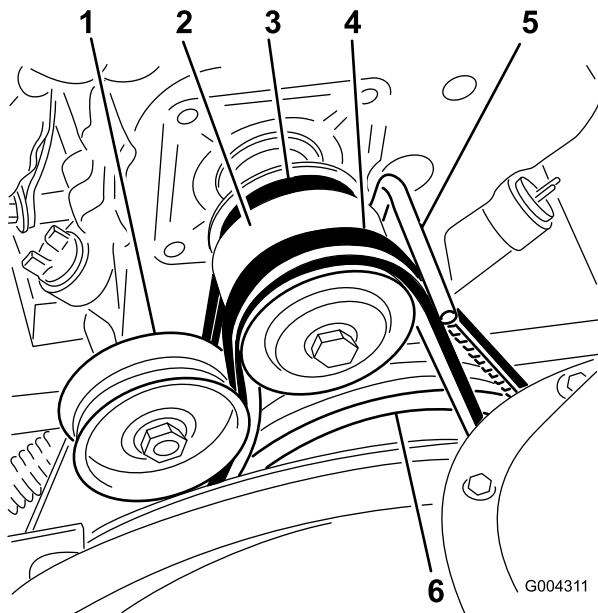

Figure 38
1. Flange-head bolt (2)
3. Loosen the belt guide (Figure 38).
4. Remove the auger/impeller drive belt from the engine pulley and the large auger/impeller pulley (Figure 38).
9. Remove the traction drive belt from the engine pulley and the large traction pulley (Figure 38).
11. Loop the belt over the engine pulley, ensuring that the belt is on the inside of the belt guide (Figure 38).
16. Install the auger/impeller drive belt around the large auger/impeller pulley and engine pulley, ensuring that the belt is on the inside of the idler pulley and the belt guide (Figure 38).
2. Loosen the belt guide (Figure 38).
3. Remove the auger/impeller drive belt from the engine pulley and the large auger/impeller pulley (Figure 38).
4. Install a new belt around the large auger/impeller pulley (Figure 38).
5. Loop the belt over the engine pulley, ensuring that the belt is on the inside of the idler pulley and the belt guide (Figure 38).